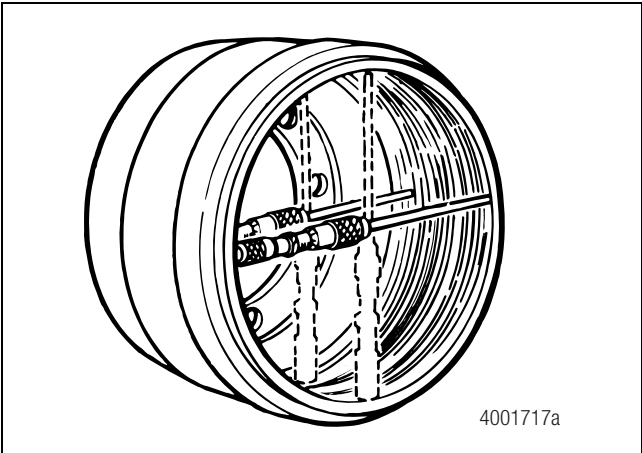

Figure 7.44
- If any of these measurements are 0.120-inch (3.048 mm) over nominal diameter: Replace the brake drum. Figure 7.44.